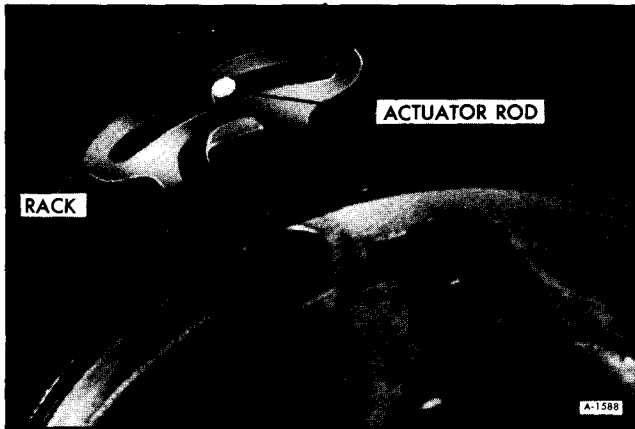

Figure 94—Engaging Rack
15. Install ignition switch actuator rod through bowl from bottom and insert in slot in support. Extend rack downward from bearing housing. Assemble bearing housing over steering shaft and engage rack over end of actuator rod (figure 94).